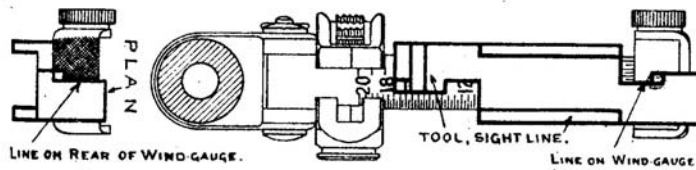

Fig. 3.
*Note.*—The internal shoulder (A) in the bolt-head controls the firing-pin in its most forward position, and when the firing-pin is properly adjusted it prevents it from striking the edge of the chamber when snapping. Therefore, when adjusting the rear-end (B) of the firing-pin, care should be taken to see that the pin is not more than .003 inch below the rear face (C) of the bolt-head, as whatever distance it is below, so there will exist a similar clearance between the shoulder (D) of the pin and the shoulder (A) of the bolt-head when the pin is gauged for protrusion, and this, added to the amount of protrusion as gauged, gives the amount of protrusion of the striker point in its most forward position.
9. To re-line the windgauge or cap of the back sight of rifles No. 1 and No. 2.—The tool, sight line, and scriber will be used in the following manner and as shown in Fig. 3.